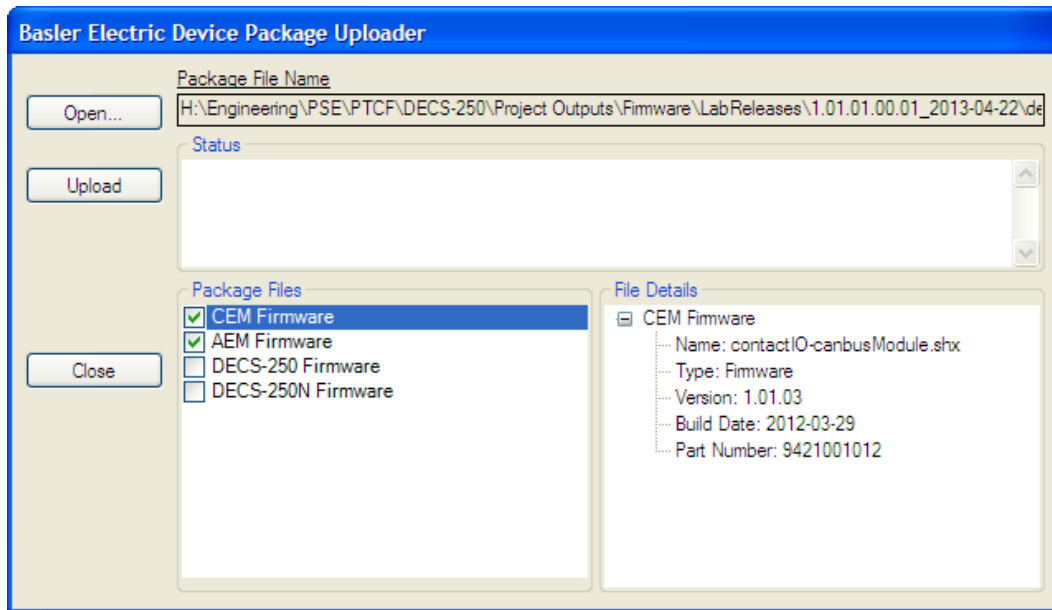

Figure 123. Basler Electric Device Package Uploader
8. When the Basler Electric Device Package Uploader screen (Figure 123) appears, click on the Open button to browse for the device package you have received from Basler Electric. The Package Files along with File Details are listed. Place a check in the boxes next to the individual files you want to upload.